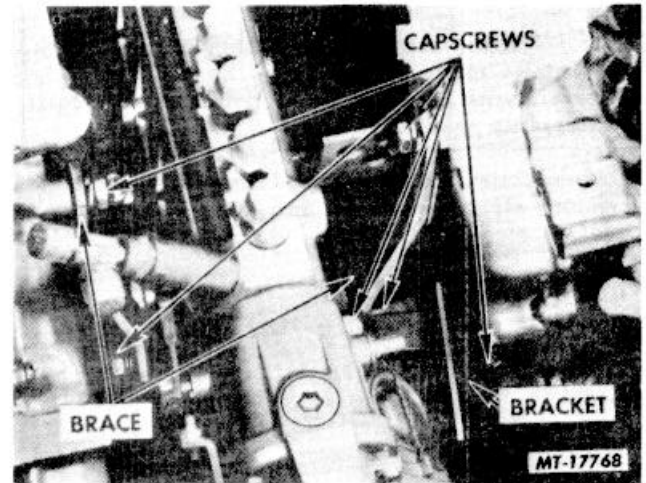

Fig. 34 Injection Pump Mounting Braces
24. Loosen two capscrews securing horizontal bracket to intake manifold (Figure 34).
25. Remove one capscrew securing horizontal bracket to pump and remove bracket (Figure 34).
26. Loosen brace lower capscrews to pump (Figure 34).
27. Remove two top capscrews securing braces to intake manifolds and remove braces (Figure 34).